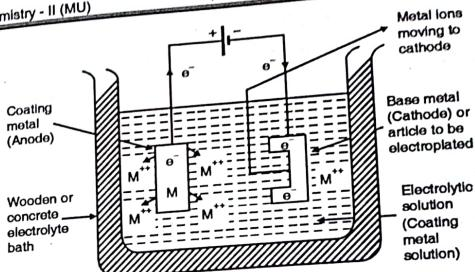

Fig. 1.7.5 : Electroplating
- Electroplating is carried out in an electrolytic cell. As shown in Fig. 1.7.5.